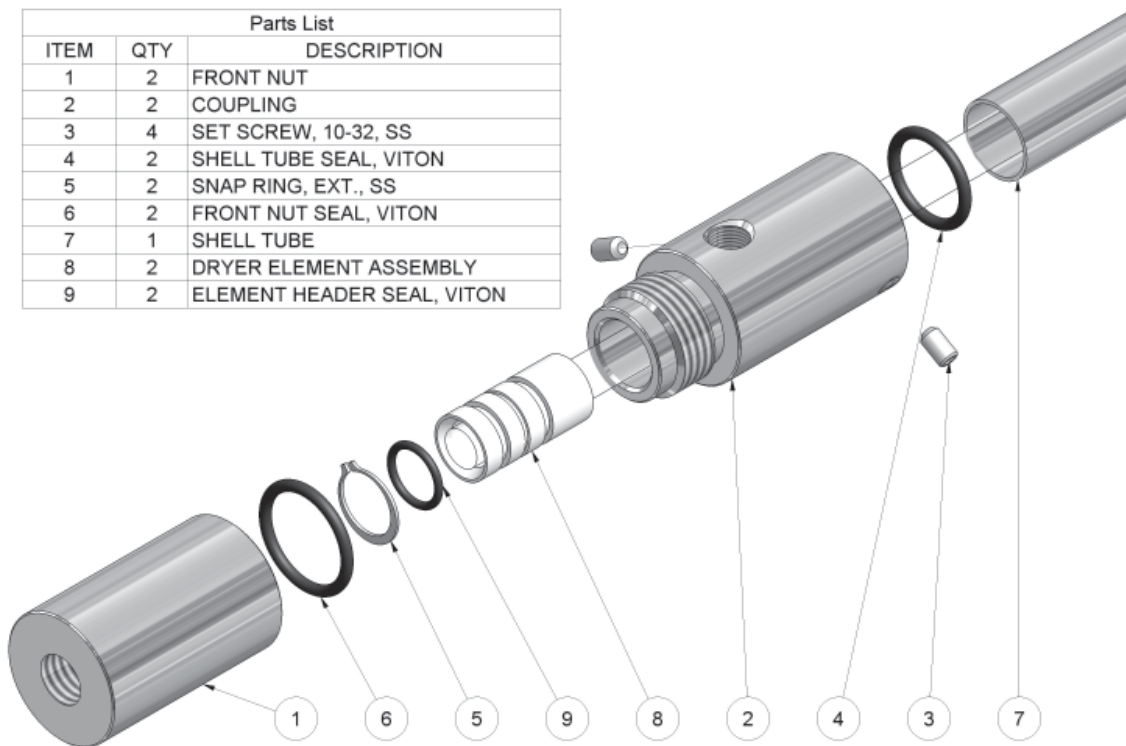

Figure 10
1. Hold coupling and shell with one hand, and remove front nut on each end with the other (Refer to Figure 10).